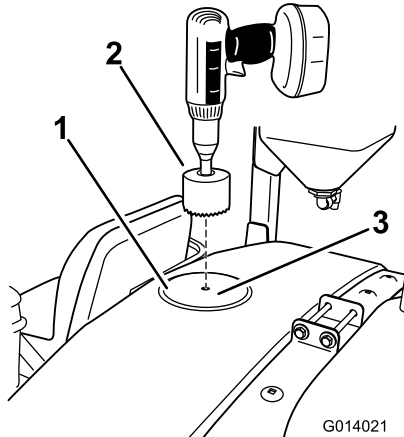

Figure 17
1. Locate the forward location on the top of the tank as shown in Figure 17.
2. Use a 9 cm (3-5/8 inch) hole saw to drill a hole at the drill mark (Figure 17).